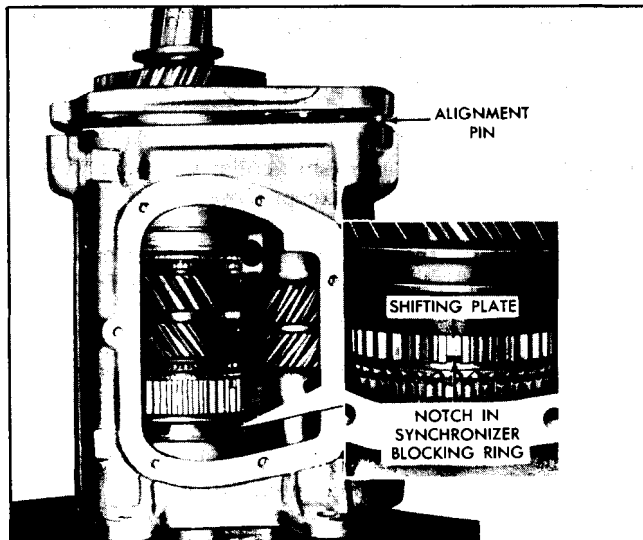

Fig. 7D-34 Installing Mainshaft Assembly
19. Attach a dial indicator (Fig. 7D-33) and check end play of the countershaft gear. If end play is greater than .025", new thrust washers **must** be installed.
20. Install cage and the seventeen (17) bearing rollers into main drive gear cavity, using heavy grease to hold the rollers and cage in place.